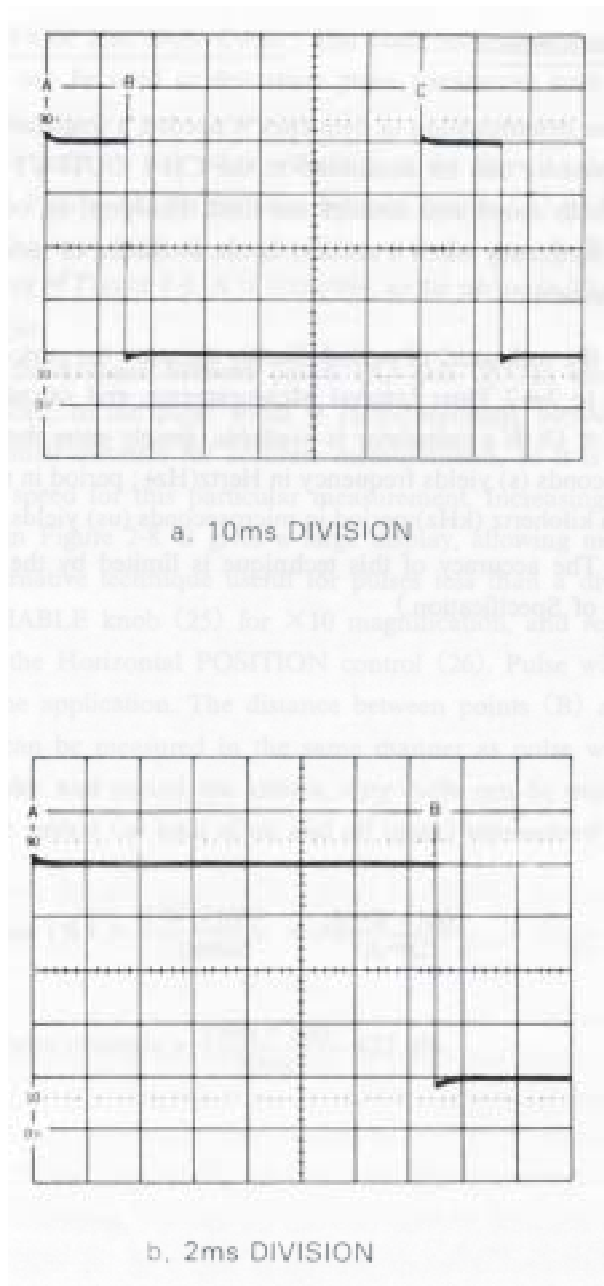

FIGURE 2-8. TIME INTERVAL MEASUREMENT
The period of a pulse or any other waveform is the time it takes for one full cycle of the signal. In Figure 2-8, the distance between points (A) and (C) represent one cycle ; the time interval of this distance is the period. The time scale for the CRT display of FIGURE 2-8. A is 10ms/div, so the period is 70 milliseconds in this example.
Pulse width is the distance between points (A) and (B). In our example it is conveniently 1.5 divisions, so the pulse width is 15 milliseconds. However, 1.5 divisions is a faster sweep speed for this particular measurement. Increasing the sweep speed to 2ms/div as in Figure 2-8. B gives a large display, allowing more accurate measurement. An alternative technique useful for pulses less than a division wide is to pull the A VARIABLE knob (25) for X10 magnification, and reposition the pulse on screen with the Horizontal POSITION control (26). Pulse width is also called on time in some application. The distance between points (B) and (C) is then called of time. This can be measured in the same manner as pulse width.